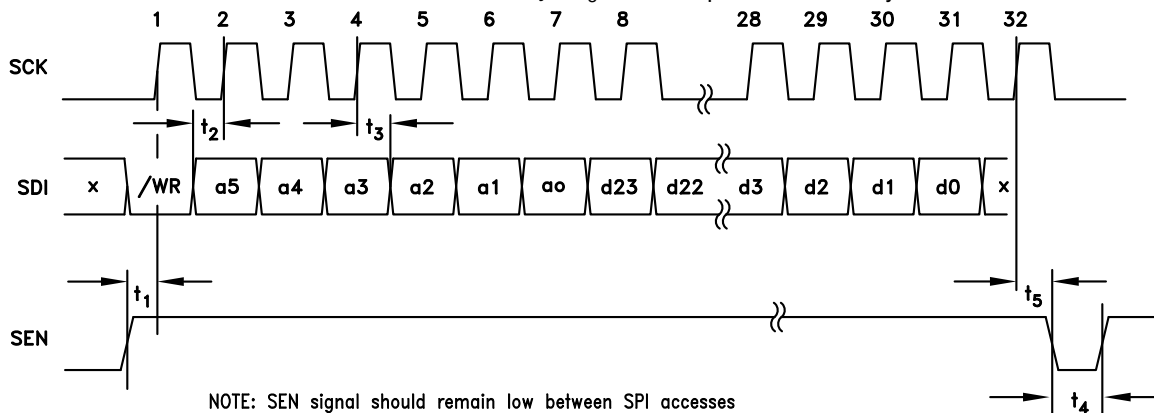
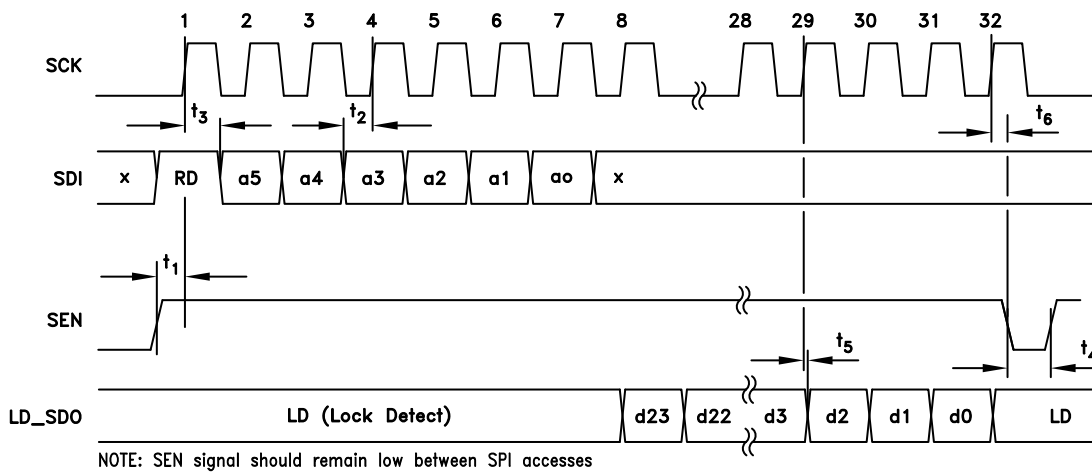

Figure 45. HMC Mode - Serial Port Timing Diagram - WRITE
Figure 46. HMC Mode - Serial Port Timing Diagram - READ
The HMC Mode protocol, shown in figures Figure 45 and Figure 46, is designed for a 4 wire interface with a fixed protocol featuring
A typical HMC Mode WRITE cycle is shown in Figure 45.
A typical HMC Mode READ cycle is shown in Figure 46.
- The Master (host) asserts both SEN (Serial Port Enable) and SDI to indicate a READ cycle, followed by a rising edge SCLK. Note: The Lock Detect (LD) function is usually multiplexed onto the LD\_SDO pin. It is suggested that LD only be considered valid when SEN is low. In fact LD will not toggle until the first active data bit toggles on LD\_SDO, and will be restored immediately after the trailing edge of the LSB of serial data out as shown in Figure 46.
- The slave (HMC834LP6GE) reads SDI on the 1st rising edge of SCLK after SEN. SDI high initiates the READ cycle (RD)